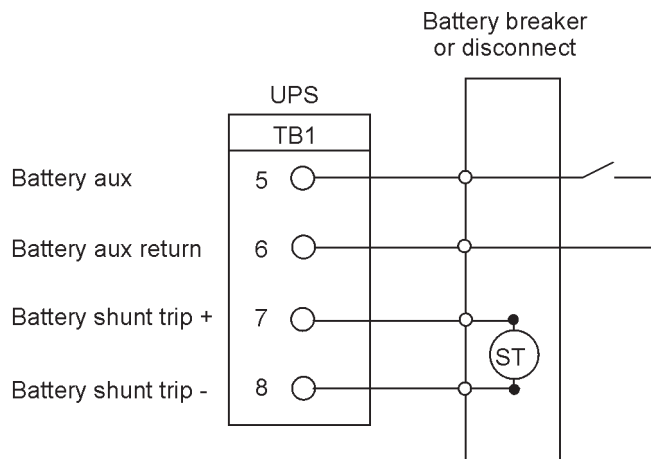

Figure 4-10. Typical battery interface connection
8. To locate the appropriate terminals and review the wiring and termination requirements, see Table 4-1 on page 41, and Figure 4-8 through Figure 4-10.